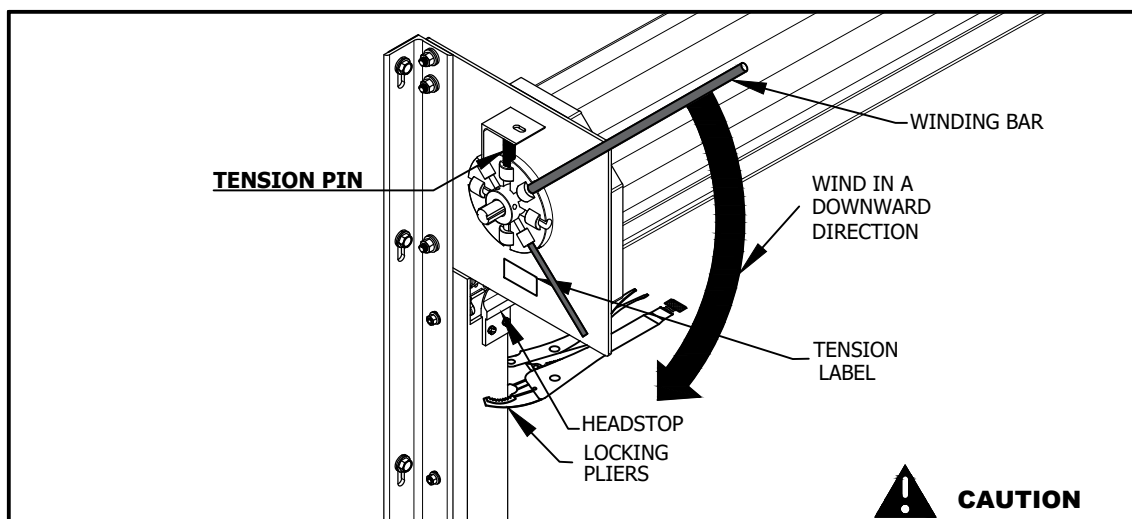

FIGURE 18
- a. Install locking pliers to service cutouts approximately 4" down from head stops to prevent any downward curtain travel as shown in Figure 18.
- c. Apply tension from the top, downward, as shown in Figure 18 to the preload turn amount shown on tension label and on barrel sticker.